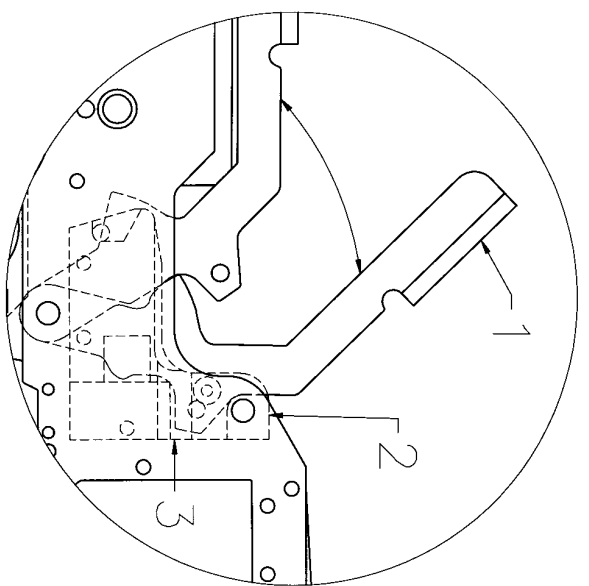

FIG. 2
2. Loading and firing (*Fig. 2*)
5.2 It is not necessary to dismantle the pistol for regular cleaning. When the breech is in the open ("loading") position, it is possible to clean the chamber and barrel by passing the cleaning rod provided through the opening in the grip coinciding with the aperture in the breech block (*Fig. 2 (3)*). In order to avoid dirt penetrating in to the trigger unit and mechanism, it is recommended that the pistol is rotated 180, with the grip base plate turned facing upwards, before using an air cleaner.